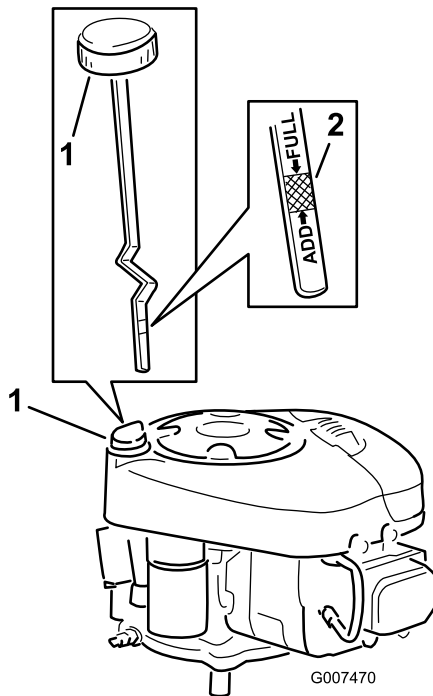

Figure 22
8. Clean around the oil dipstick (Figure 22) so that dirt cannot fall into the fill tube and damage the engine.
9. Unscrew the oil dipstick and wipe the metal end clean (Figure 22).
10. Screw the oil dipstick fully onto the fill tube (Figure 22). Unscrew the dipstick again and look at the metal end. If the oil level is low, slowly pour only enough oil into the fill tube to raise the level to the Full mark on the dipstick.
13. Slowly pour approximately 80% of the specified amount of oil into the fill tube (Figure 22). Check the oil level; refer to steps 9 and 10 of Checking the Oil Level.